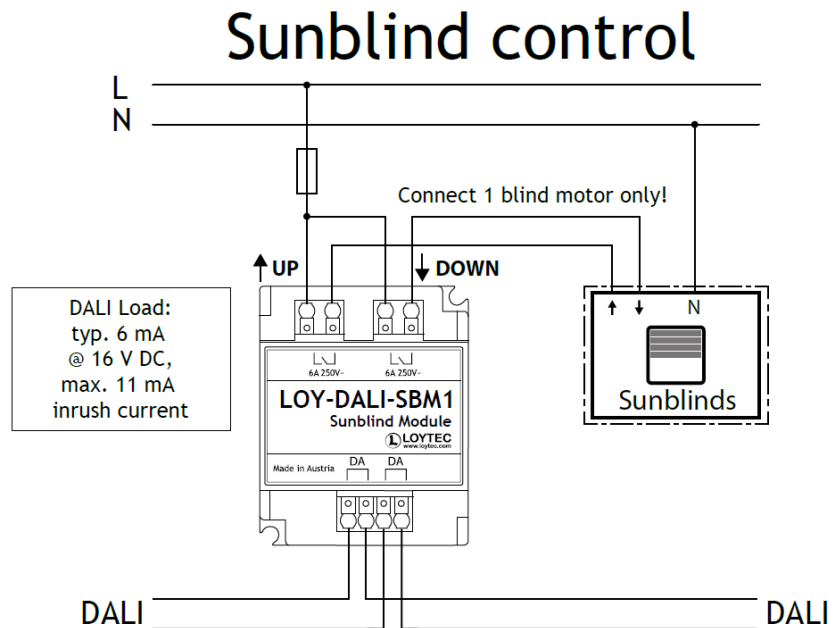

Figure 15: LOY-DALI-SBM1 used as sunblind controller
- Module and sunblind-motor have to be protected by means of a suitably-rated fuse or thermal circuit breaker (see Figure 15).